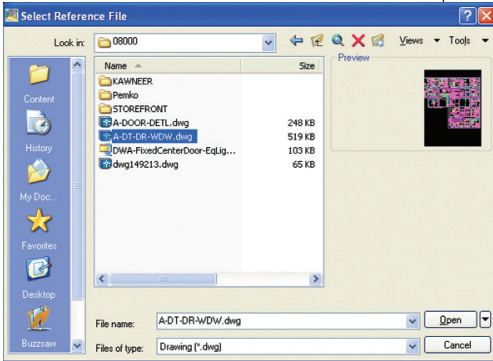

Figure 6
- Insert the detail file or files as cross references (Figure 6).